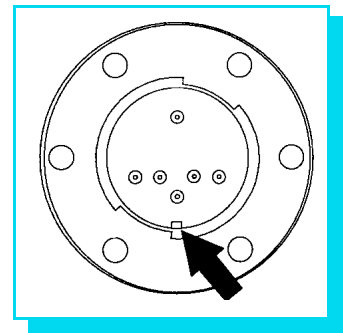
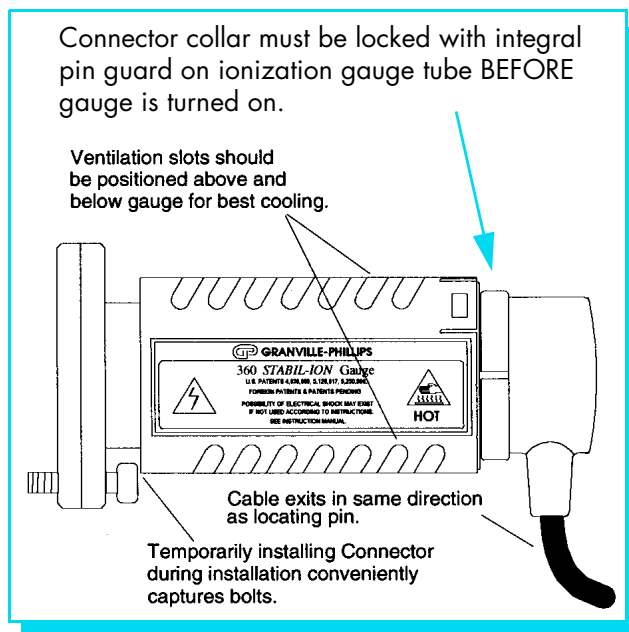

Figure 3-1 Stabil-Ion Gauge Showing Connector Locating Key.
Figure 3-3 Stabil-ion Gauge with Connector and Guard.
- Any mounting orientation may be used. However, to minimize the possibility of excessive temperature at the electrical connector when degassing, do not install the Stabil-Ion Gauges with the electrical connector above the gauge. If it is necessary to install the gauge with the connector on top, degas time must be limited to 10 minutes/hour. See Section 2.1.8 on page 2-16. When mounted horizontally, the ventilation slots in the Guard will be oriented for best cooling if the gauge is installed with the locating key in the pin guard on the bottom. See Figure 3-1 and Figure 3-3. Note in Figure 3-3 that the cable will exit in the direction the locating key is oriented.